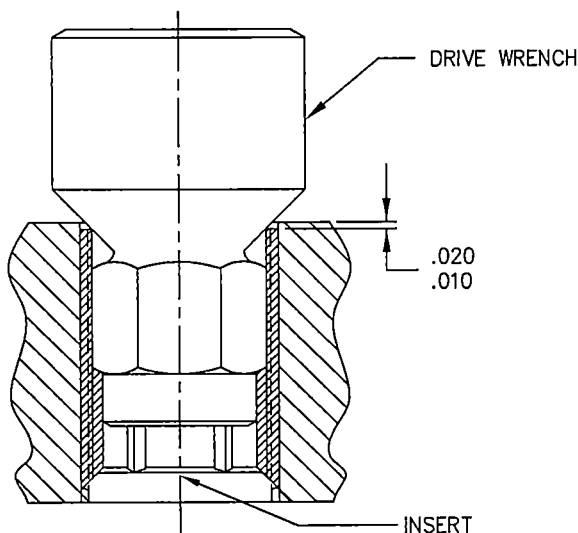

FIGURE 3
- 2.3 ENGAGE THE HEX OF APPLICABLE DRIVE WRENCH PER TABLE 3 INTO INSERT AND WRENCH INSERT INTO THE HOLE TO .010 TO .020 DEPTH AS SHOWN IN FIGURE 3.